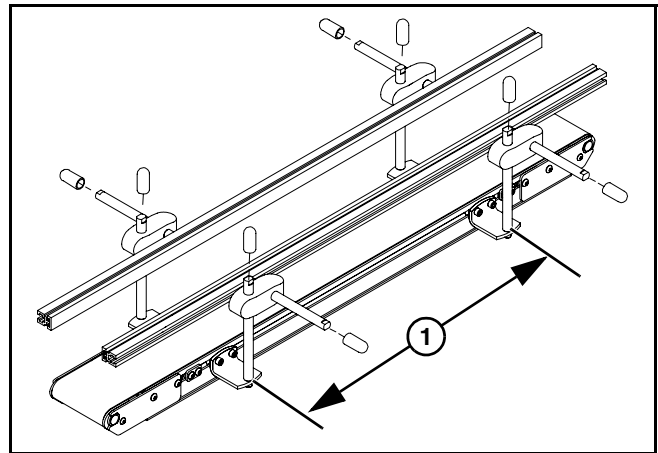

Figure 19
2. Evenly space the T-bars, on both sides of the conveyor at distances no greater than 36 in. (915 mm) (Figure 19, item 1). Install mounting brackets and guiding as required.